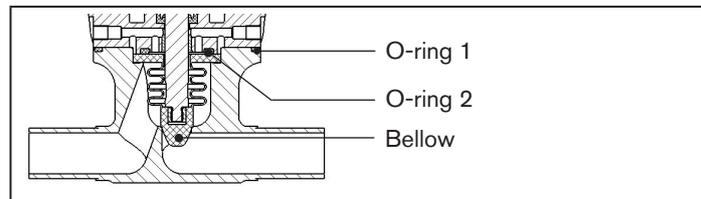

Fig. 5: Detail (valve body - O-rings)
- Remove O-ring 1 from the valve body - see „Fig. 5“